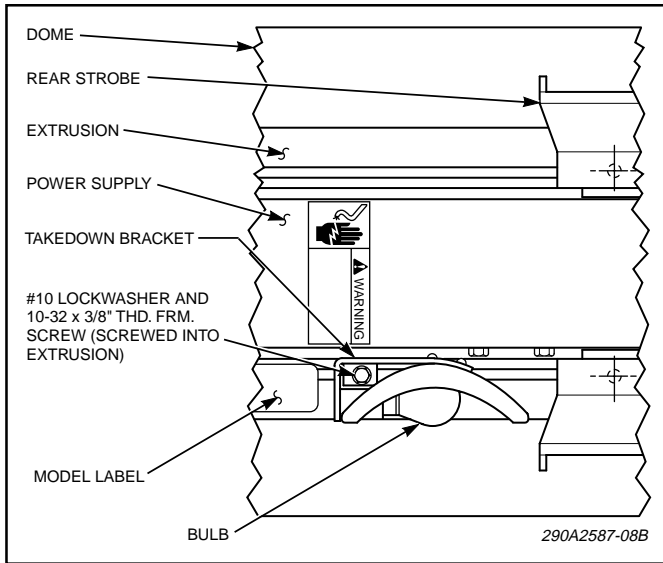

Figure 1.
3. Position the takedown reflector assembly at the selected location. Temporarily install the dome and ensure that the reflector is aligned with the center of the dome insert. Remove the dome and secure the takedown reflector assembly to the extrusion with the #10 thread-forming screw and #10 lockwasher (see figure 1).